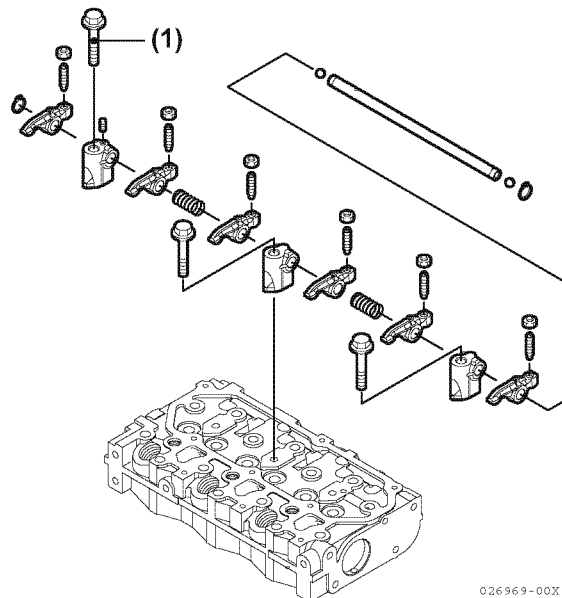

Figure 6-4
1. Remove the bolts (**Figure 6-4, (1)**) that retain the rocker arm shaft supports.